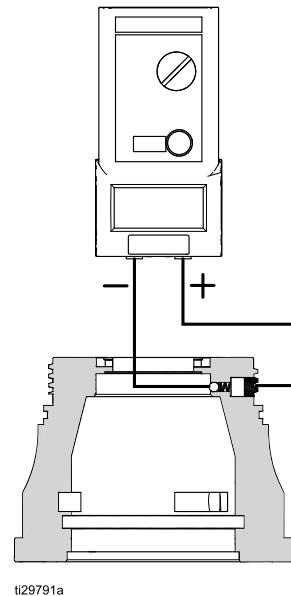

FIG. 19. Front Housing Resistance
3. If resistance is <math><0.1</math> megohm, reassemble and retest the full applicator. Make sure spring loaded contacts are clean and making contact with the mating surface. Refer to FIG. 19.